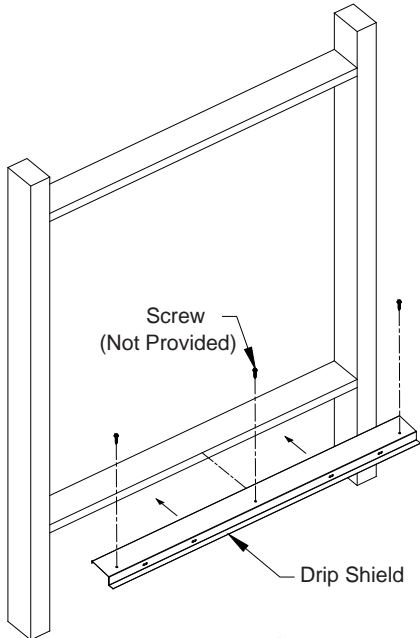

Figure 9A
Attach Drip Shield to bottom of framed opening using (3) proper Screws (Not Provided). See Figure 9A and 9B. If a 100mm wall is used a support board must be installed as shown in Figure 9B. Be sure not to deform Drip Shield when installing screws.